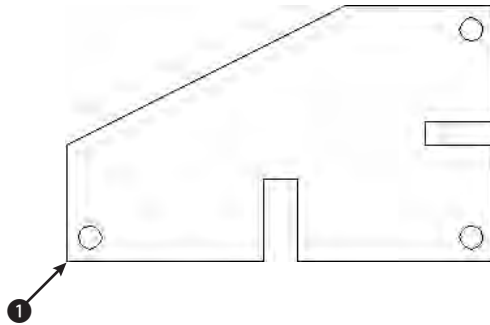
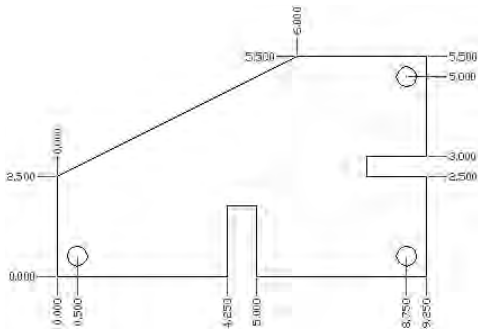

Figure 14-24: A sheet metal template
Figure 14-25: The dimensioned template
2. Save the file as *ab14-06.dwg* in your AutoCAD Bible folder. This drawing shows a simple sheet metal template, as shown in Figure 14-24. Snap should be on. Set a snap distance of 0.25 units. Right-click the SNAP button on the status bar and make sure that grid snap is on. If the Dimension toolbar isn't visible, right-click any toolbar and check Dimension.
3. Choose Tools ⇨ Move UCS. At the Origin point <0,0,0>: prompt, pick ❶ in Figure 14-24.
4.  Choose Ordinate Dimension from the Dimension toolbar. At the Specify feature location: prompt, choose ❶ in Figure 14-24. At the Specify leader endpoint or [Xdatum/Ydatum/Mtext/Text/Angle]: prompt, pick a point 0.5 units to the left of ❶, as shown in Figure 14-25. (Because Snap is on, this is easy. If necessary, press F6 until you get polar coordinates to display in the lower-left area of the drawing screen.)
5. Repeat the DIMORDINATE command. At the Specify feature location: prompt, choose ❶ in Figure 14-24. At the Specify leader endpoint or [Xdatum/Ydatum/Mtext/Text/Angle]: prompt, pick a point 0.5 units below ❶.
6. Continue to dimension the drawing, using Figure 14-25 as a guide. (Tip: Type **multiple** ↵ **dimordinate** ↵ so that AutoCAD automatically repeats the command. Press Esc when you no longer need the command.)